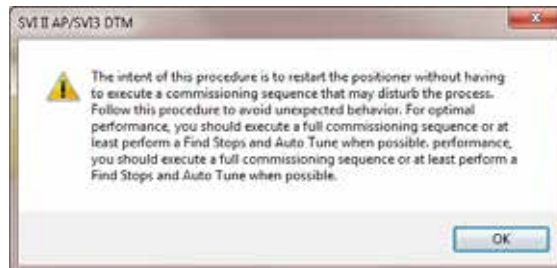

Figure 109 Load Data to Clone Device
4. Click **Step 2: Load Data to Clone Device** in the navigation pane and Figure 109 appears.